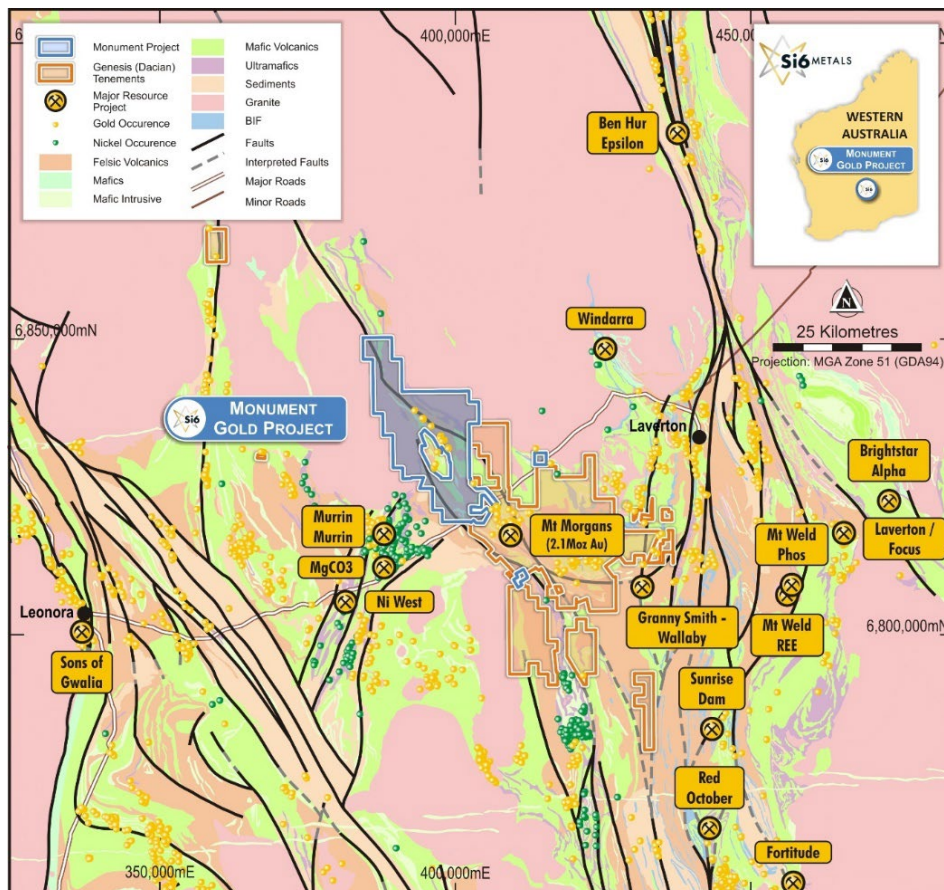

Figure 1: Location of Monument Gold project within Laverton tectonic zone, Western Australia.
Si6 Metals Limited (ASX: Si6 or the Company) is pleased to announce that it has received the final assay results from the Phase Two aircore (AC) drilling program completed in Q2 CY2022 at the Monument Gold Project (MGP), Western Australia (Figure 1). Drilling was undertaken on tenure directly adjacent to and along strike of Dacian Gold Ltd's (ASX:DCN) ~2Moz Au Mt Morgans Project. DCN recently received a takeover offer from Genesis Minerals Ltd (ASX:GMD) which is seeking to consolidate Western Australia's northern Goldfields. Si6 intends to commence Phase Three AC drilling at MGP next month.